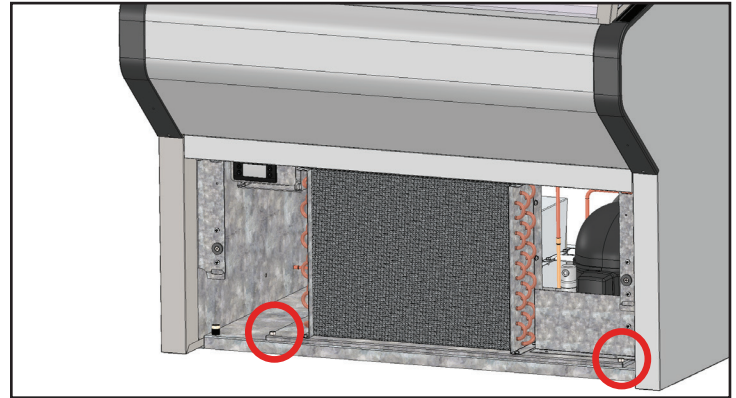

Fig. 5. Remove the condenser base bolts.
6. Remove the condenser base bolts. See fig. 5.